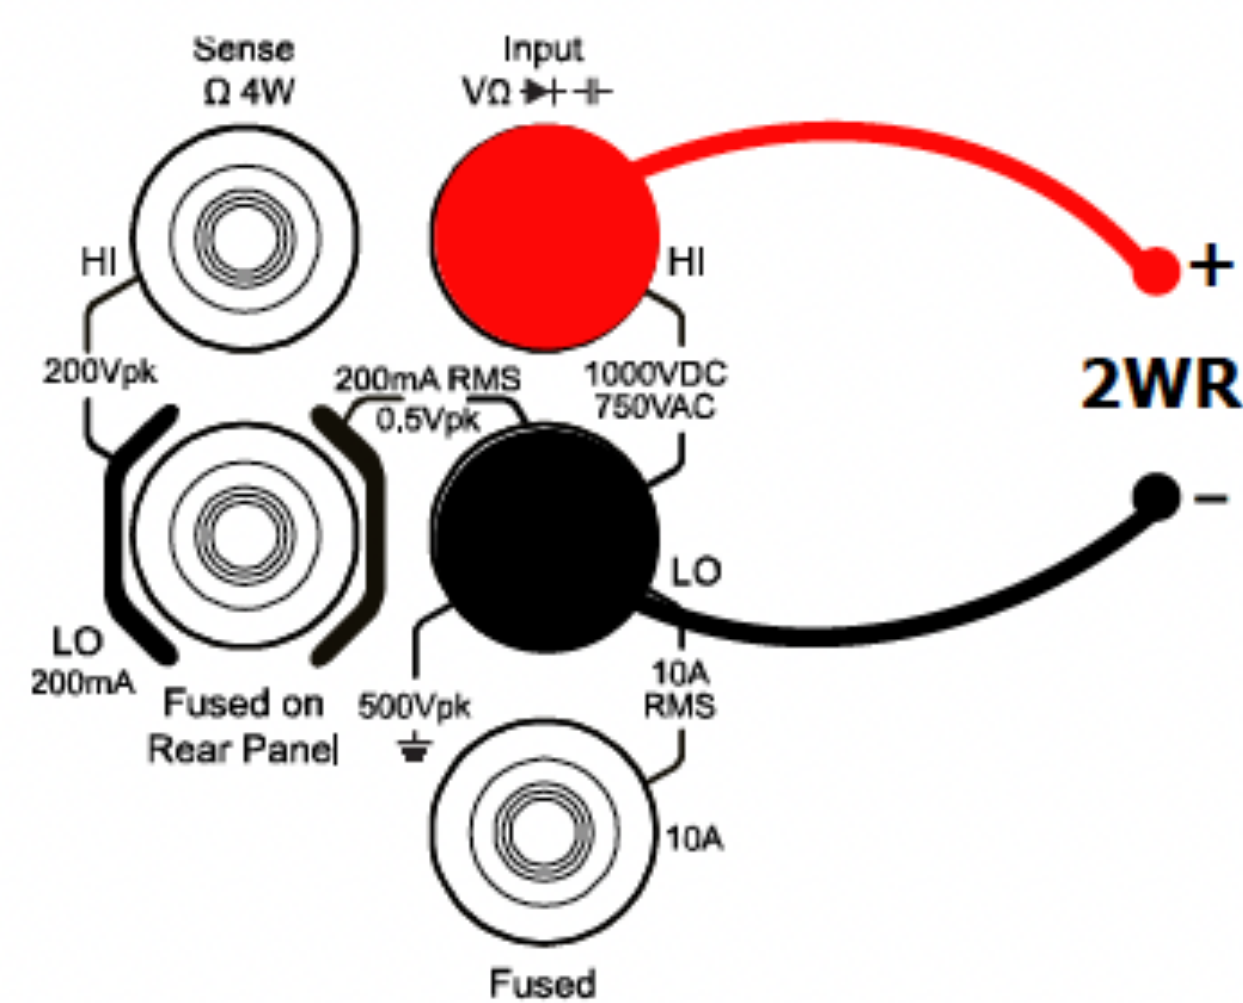

Figure 7: The resistance test connection diagram of DMM
**Hint:** Figure 7 shows how to connect DMM when use as Ohmmeter, and DMM should connect with the resistor network **in parallel**.